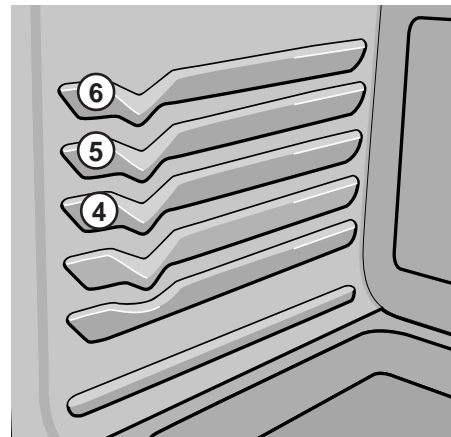

Fig. 2
2. Arrange the interior oven rack - p. 23 Figs. 2 & 3- for position recommendations. Be sure to place the prepared food and pan directly under broil burner. Close the oven door.